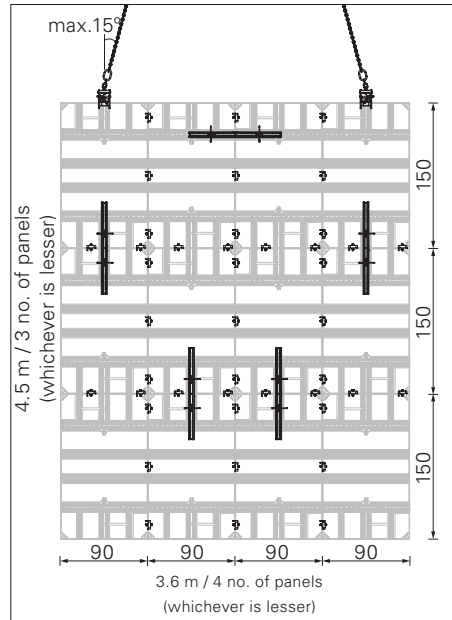

Fig. 1
– Up to 12 HSA Panels 150 x 90 can be moved as one unit. Fig. 1